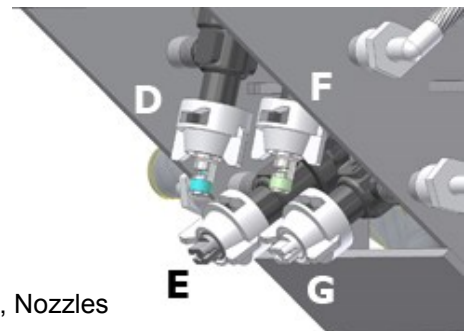

FIGURE 15, Nozzles
The spray pattern and spray rate are controlled by the engine speed, pump pressure, and the nozzle orifice. Referring to **FIGURE 14:** A Pressure Unloader Valve (A) at the lower right rear of the front frame controls pump pressure. There is a Suction Shutoff Valve (B) located at the lower left rear of the front frame. The Drain Valve (C) can be used to flush the spray system, drain the tanks or fill the Spot Sprayer bottle (included). A Strainer (not shown) is located inside each Tank. The Tanks are connected together by common Suction and Return flow plumbing to provide a total capacity of **12 U.S. GALLONS** (45.4 liters). **NOTE:** The Triumph is not capable of selectively drawing from only one Tank. Referring to **FIGURE 15:** There is a pair of low drift nozzles (broadcast (D) & trim (E)) for use while in **LOW GEAR**, and a
- Referring to **FIGURE 15**, select the **HIGH GEAR** Broadcast Nozzle (**TF-VS 7.5** color coded with a green band) by turning the front Spray Control Valve (I) handle to the left. The rear
- Referring to **FIGURE 15**, select the **HIGH GEAR** Trim Nozzle (**ULD120-08** color coded white) by turning the front Spray Selector Valve handle (**I**) to the right. The rear Spray Selector Valve handle (**J**) must be pointed forward turning off the **LOW GEAR** nozzles.